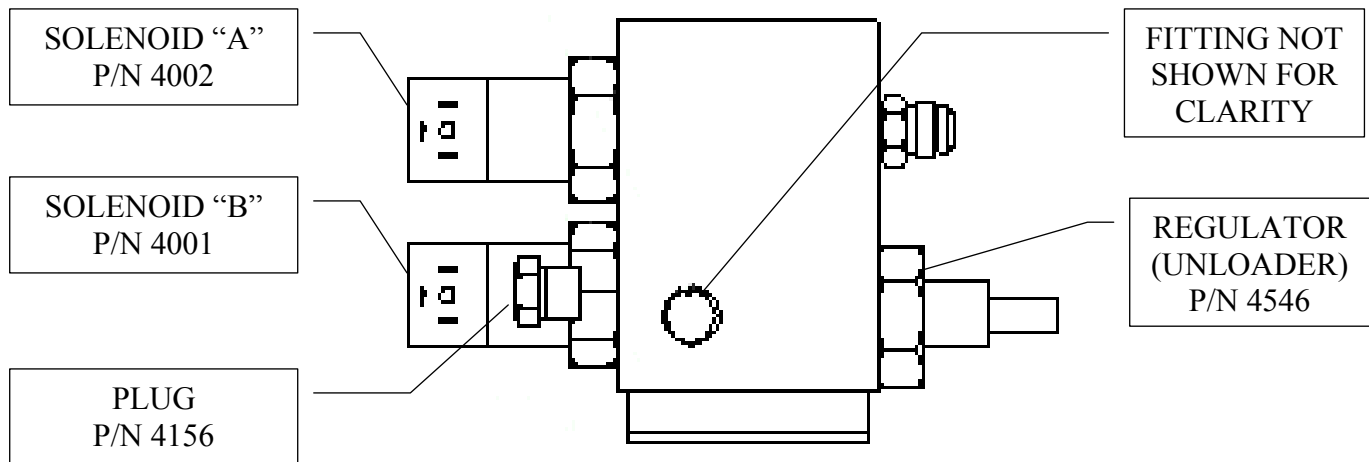

Figure 17
19.4. For units without pressure switch: Refer to Figure 17.